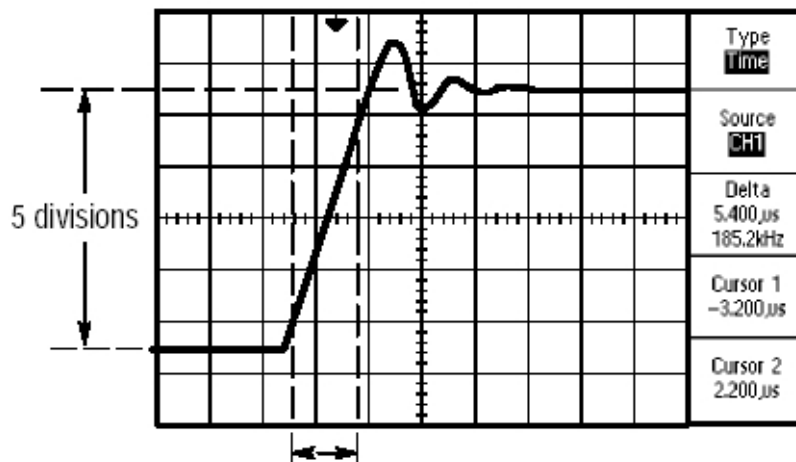

Figure 10. Measuring Rise Time
2. Adjust the **Volts/Div** knob to set the waveform amplitude to five divisions, peak to peak, as shown in Figure 10 below.